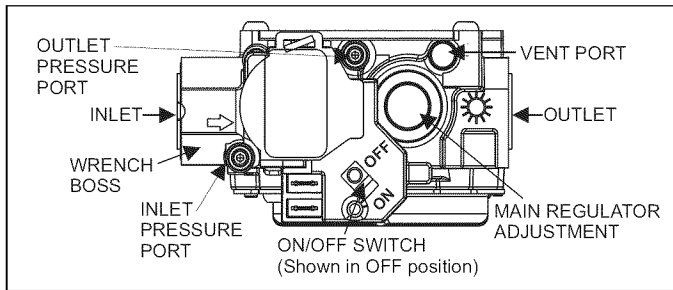

FIGURE 4: Gas Valve
- Move gas control switch to the "OFF" position. Do not force. See Figure 4.
- Wait five (5) minutes to clear out any gas. If you then smell gas, STOP! Follow "B" in the safety information above. If you don't smell gas, go to next step.
- Move gas control switch to the "ON" position. Do not force. See Figure 4.
- After three (3) trials for ignition, if the appliance will not operate follow the instructions, "TO TURN OFF THE APPLIANCE" and call your service technician or gas supplier.
- Move gas control switch to the "OFF" position. See Figure 4.
2. Remove the blower and burner compartment access doors. Disconnect the gas supply piping at the union to permit removal of the entire burner and gas control assembly from the vestibule panel. Use a wrench on the wrench boss on the gas valve when removing or installing this piping. Refer to Figure 4.